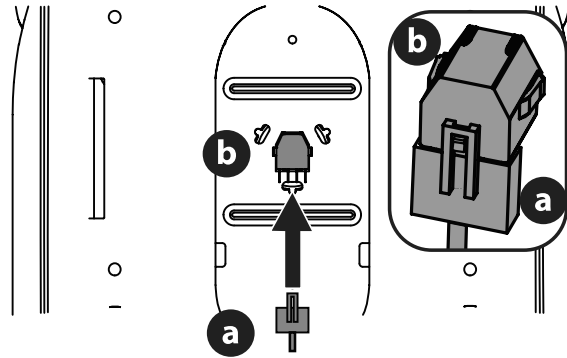

Figure 7
3. If necessary, securely connect the seat switch wiring harness (a) to the seat switch (b) (Figure 7). Secure excess wire away from pinch points before continuing.